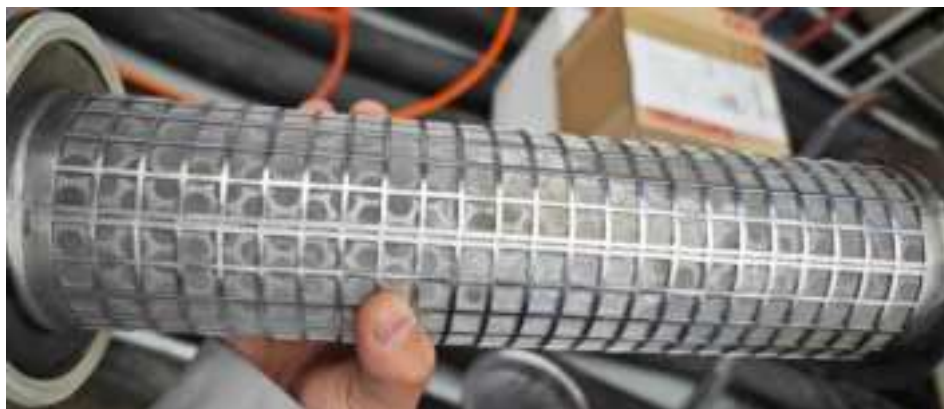

Figure 10-24 Remove the pipeline filter
- e. Remove and clean (or replace) the filter screen inside the filter. Reference Figure 10-24 Remove the pipeline filter.